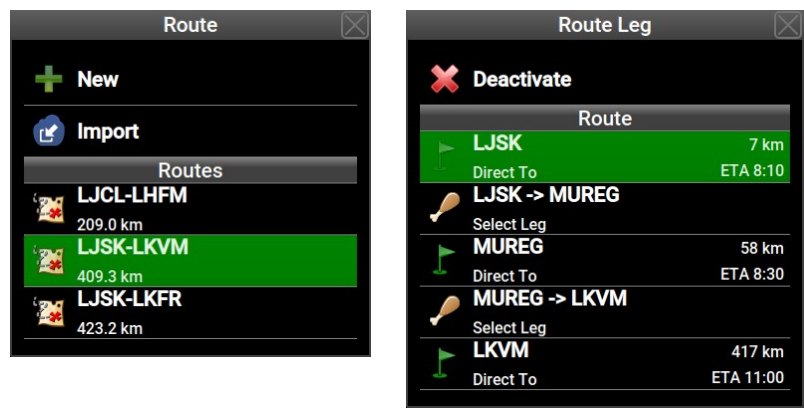

Figure 13: Route selection and activation window (left) and route manipulation window (right).
- When there is no active route, Aetos opens the route selection/activation window. See Figure 13 left. The window allows creation of a route, importing a route from USB stick or selection of one of existing routes from a list.
- However, if some route is already active, Aetos opens a route manipulation window. See Figure 13 right.
With no active route a window opens, like shown on Figure 13 left. Routes are sorted alphabetically. Route name is typically defined by a takeoff - landing airfield pair.
- Select the *New* option from Figure 13 left.
- Insert the stick into Aetos and select the *Import* command. See Figure 13 left.
When the *Route* command is issued and some route is already active, a different window appears. See Figure 13 right on page 30.